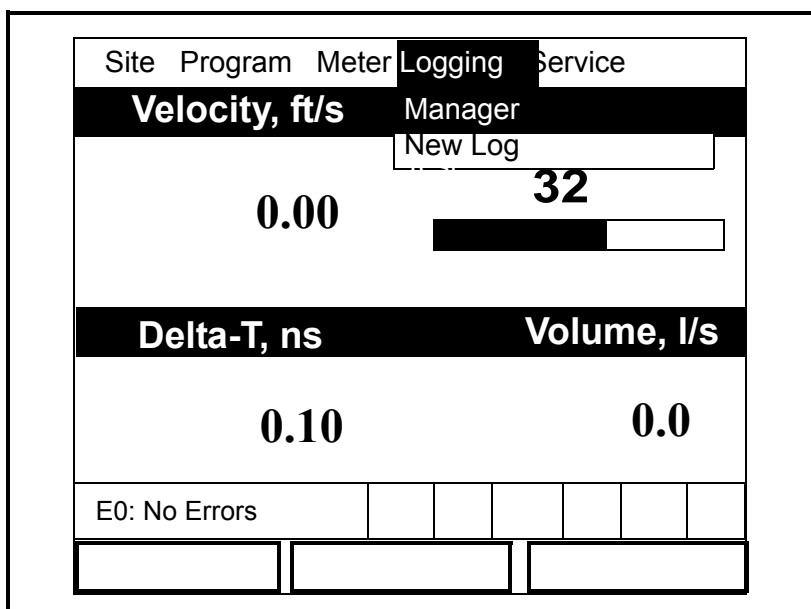

Figure 5-1: The Logging Menu
2. Scroll to the *Logging Menu* and press [ENTER]. A screen similar to Figure 5-1 below appears.
- In the *Logging* menu (see Figure 5-1 on page 5-1), scroll to the *New Log* option and press [ENTER].